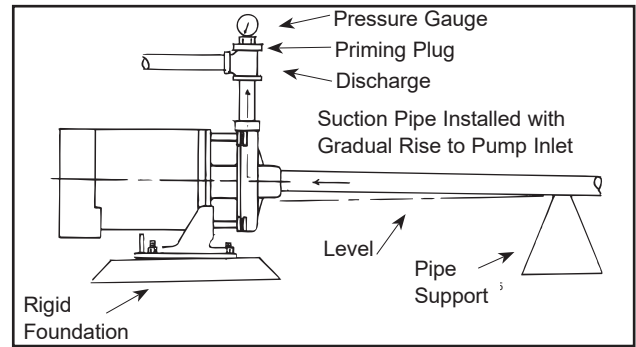

Figure 4
- Where the pump is operating with suction lift and the suction line is equipped with a foot valve, remove the priming plug from the discharge tee (see Figure 4) and fill the pump body and suction pipe completely with water. No additional water will be needed for subsequent start-ups unless the pump body is drained.